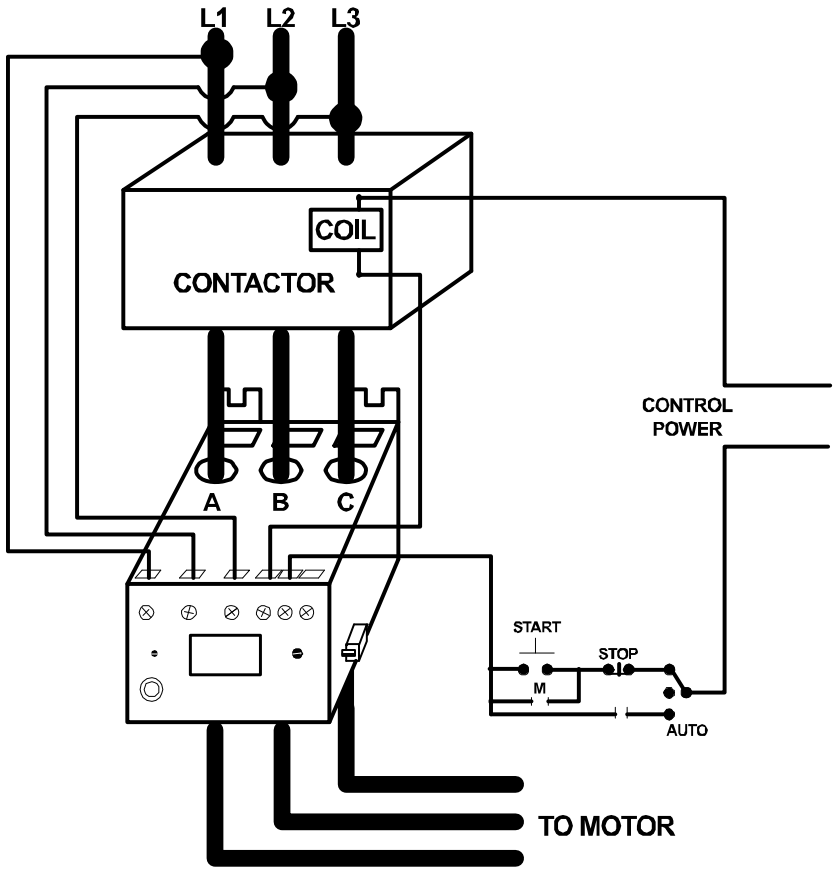

Figure 2: Typical Wiring Diagram
3. a) For amperages from 20-90 amps, insert the motor conductors through the holes marked A, B, and C. Ensure the motor phase conductors correspond with the round hole designations, i.e. the A phase conductor should go through the round hole marked "A". See Figure 2 for a typical wiring diagram.
5. Connect the control circuit wires to the appropriate terminals. The relay is designed for fail-safe operation; the NO (normally open) contact should be in series with the coil on the contactor for motor control (see Figure 2). For alarm circuits, the NC (normally closed) contact is in series with the alarm circuitry.